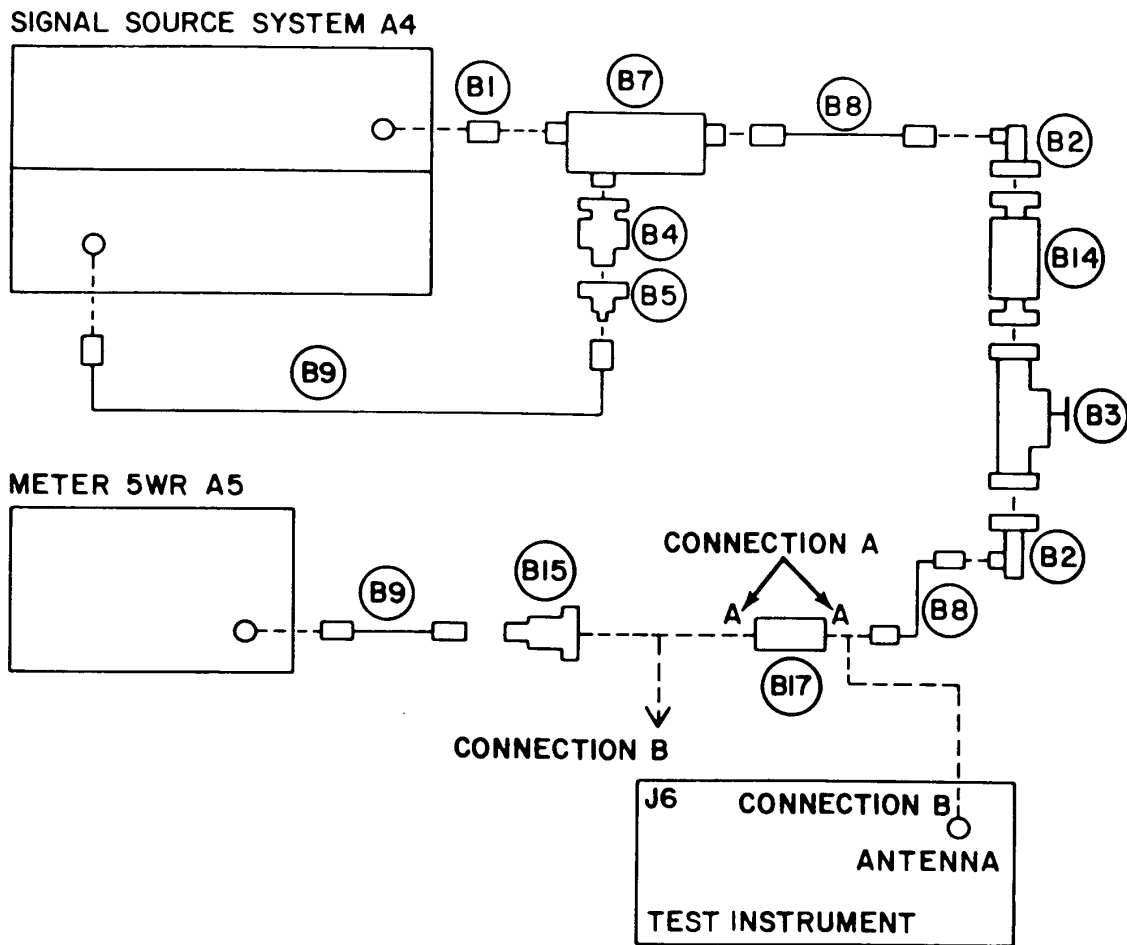

Figure 11. Attenuator check - equipment setup.
- (1) At the test instrument, remove P6 from J6.
- (2) Connect the equipment as shown in figure 11, connection A.
- (3) Establish a reference on the VSWR indicator A5, using variable attenuator B3 and the VSWR indicator controls.
- (4) Connect the equipment as shown in figure 11, connection B.
- (5) The indication the VSWR indicator decreases not more than 5 db.
- (6) Reestablish a reference on the VSWR indicator.
- (7) Set the test instrument ATTENUATOR to 20 db.
- (8) The indication on the VSWR indicator decreases 19 to 21 db.